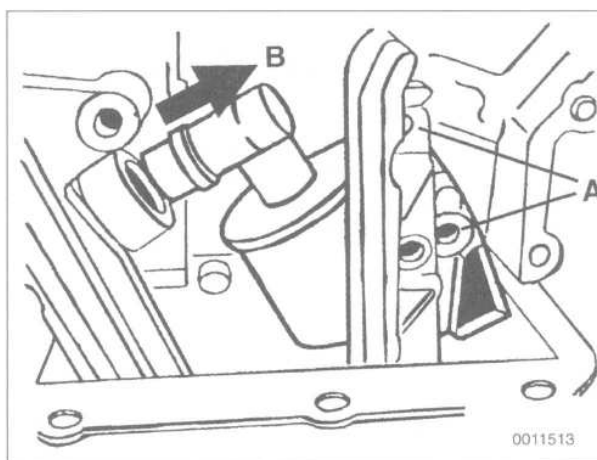

Fig. 46. Remove bolts from chain guide rail (A) and disconnect oil separator from cylinder head (B).
17. Remove bolts from timing chain guide rails and pull crankcase ventilation oil separator away from cylinder head. See Fig. 46.